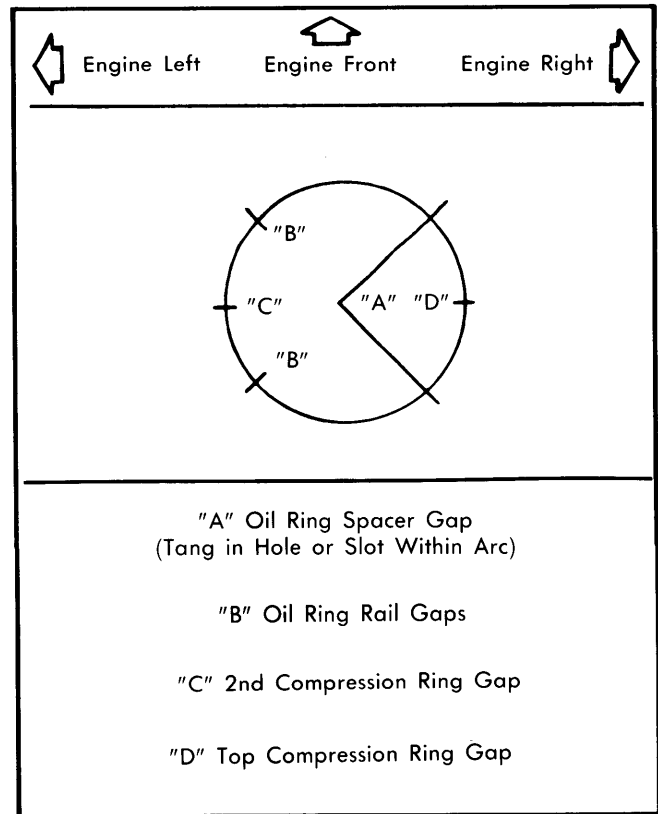

Fig. 4 Piston Ring Gap Spacing
2) Install guide hose over connecting rod bolts. Make sure ring gaps are spaced as shown in Fig. 4. Install ring compressor tool on piston.